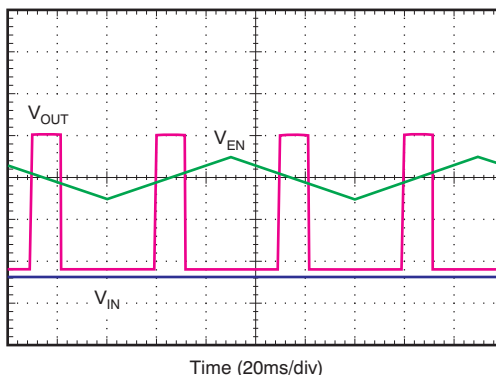

Figure 30. Enable Pin Positive and Negative Threshold
The TPS7A30 provides a dual-polarity enable pin (EN) that turns on the regulator when  $|V_{EN}| > 2$  V, whether the voltage is positive or negative, as shown in Figure 30.